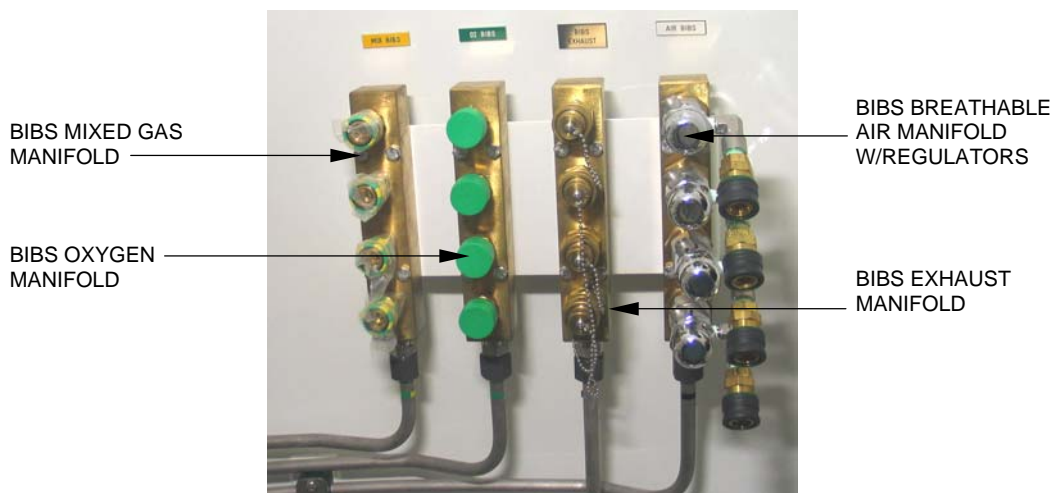

Figure 2-16. BIBS Manifolds (Inner Lock)
**2-5.8.1 BIBS Manifolds.** Located within the inner and outer locks, the BIBS manifolds (see Figure 2-16) provide oxygen, breathable air, and mixed gas supply and an exhaust path for up to four personnel in each chamber of the SNDLRCS. The breathable air manifolds have a first stage regulator attached to control the air pressure to the BIBS mask. The oxygen and mixed gas manifolds pressure is controlled externally from the recompression chamber by the operator at the Recompression Chamber Control Console. Exhaust pressure regulation is controlled by back pressure regulators (one for each lock) to provide a safe pressure for the outlet of the exhalations from each BIBS mask.